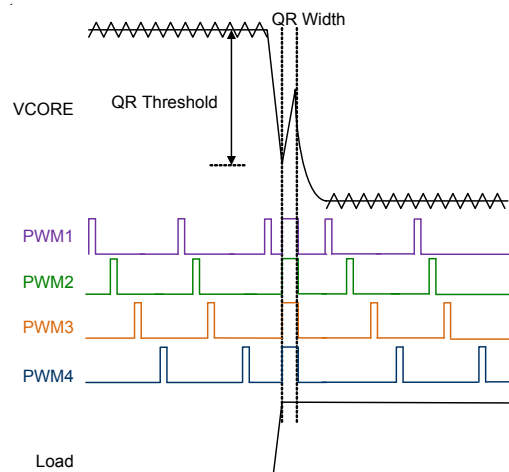

Figure 11. Quick Response Mechanism
When the transient load step-up becomes quite large, it is difficult for loop response to meet the energy transfer. Hence, that output voltage generate undershoot to fail specification. RT8884C has Quick Response (QR) mechanism being able to improve this issue. It adopts a nonlinear control mechanism which can disable interleaving function and simultaneously to turn on all UGATE one pulse at instantaneous step-up transient load to restrain the output voltage drooping, Figure 11 shows the QR behavior.